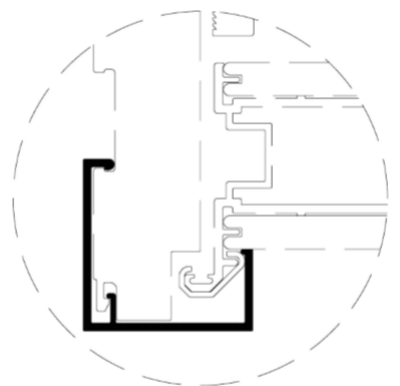

Figure 8
10. Prior to installing the pre-hung Single Door, locate and remove the shipping clip from the lock jamb (Figure 8).